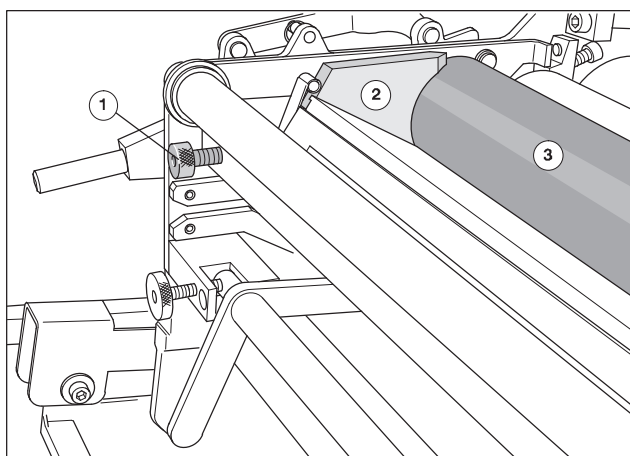

Fig. 31 Changing the ink
5. Loosen the knurled screws (Fig. 31/1) on both sides.
7. Remove and clean the ink fountain cheeks (Fig. 31/2).
9. Clean the ink fountain roller (Fig. 31/3).
12. Lock the ink fountain with the knurled screws (Fig. 31/1).